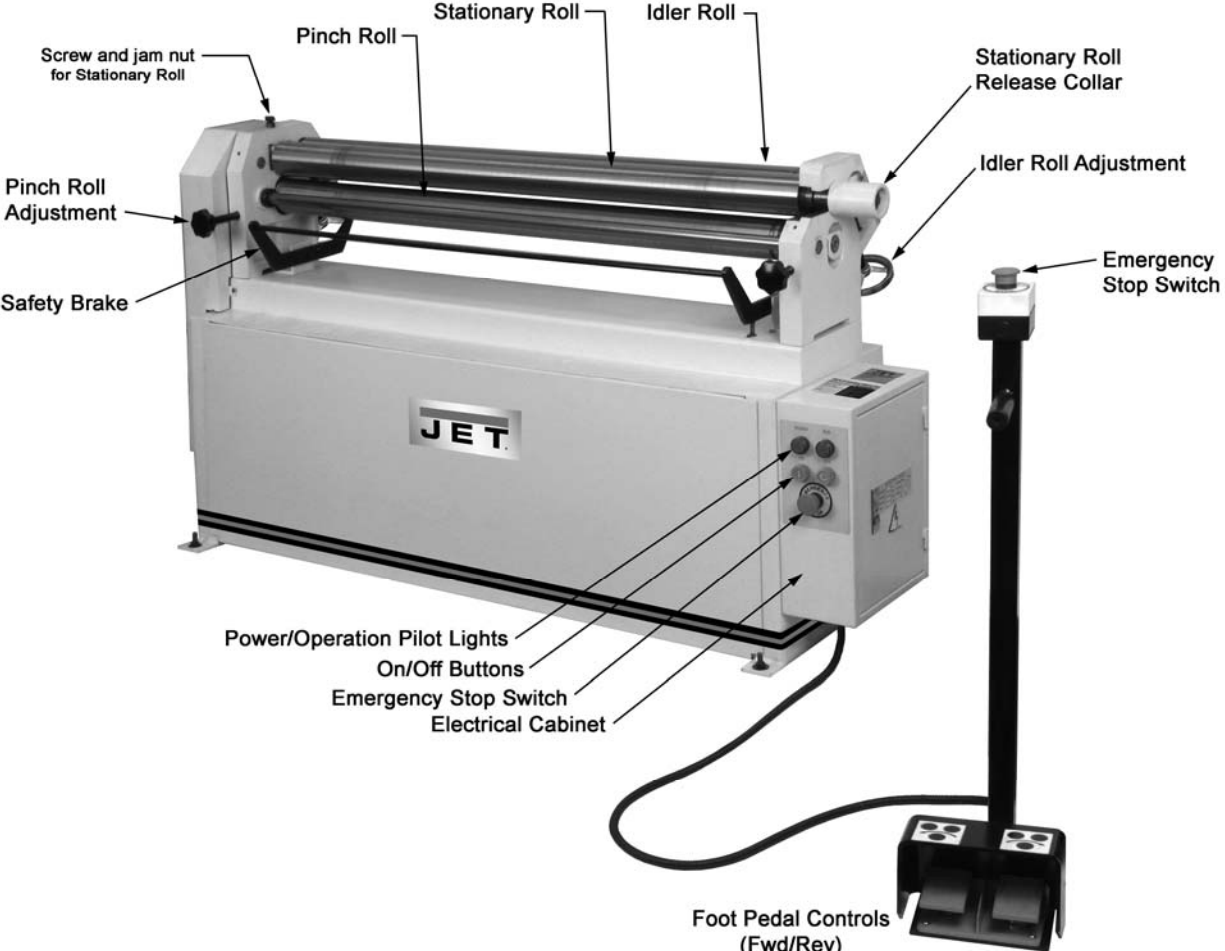

Figure 1 - Features
*(Figure 1 identifies machine elements.)*
The stationary, or top, roll is secured at its left end to the gear side of the machine with the cap screw and jam nut (see Figure 1). These can be adjusted if needed.
- Apply a light coat of grease to the pinch roll and idler roll adjustment screws (see Figure 1).